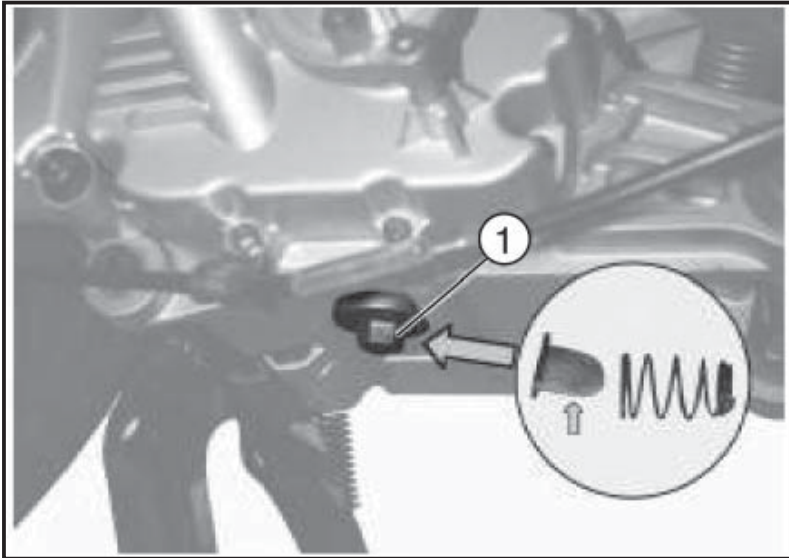

Fig. 01
### REPLACEMENT (Fig. 01)
- Loosen and remove the oil drain plug «1 - Fig. 01». The spring and oil strainer screen, will come out with the drain plug. Remove the oil filter cartridge «2 - Fig. 02» and replace with a new oil filter.